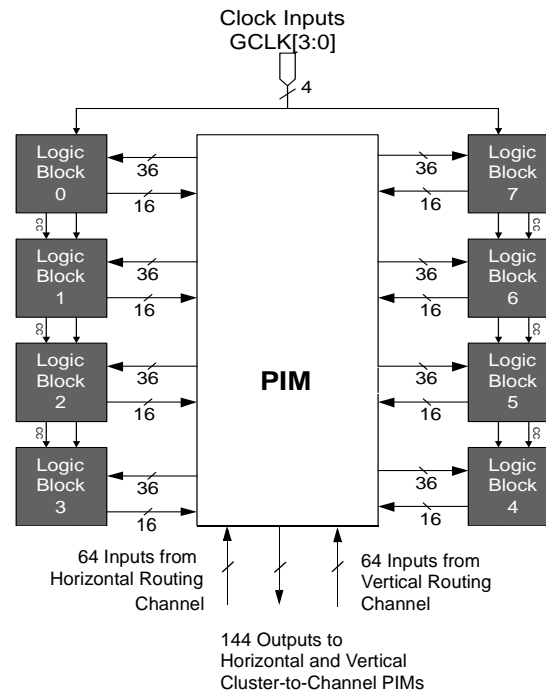

Figure 3. Quantum38K Logic Block Cluster Diagram
The Quantum38K architecture consists of several logic block clusters, each of which have 8 Logic Blocks (LB) connected via a Programmable Interconnect Matrix (PIM) as shown in *Figure 3*. All LBCs interface with each other via horizontal and vertical routing channels.